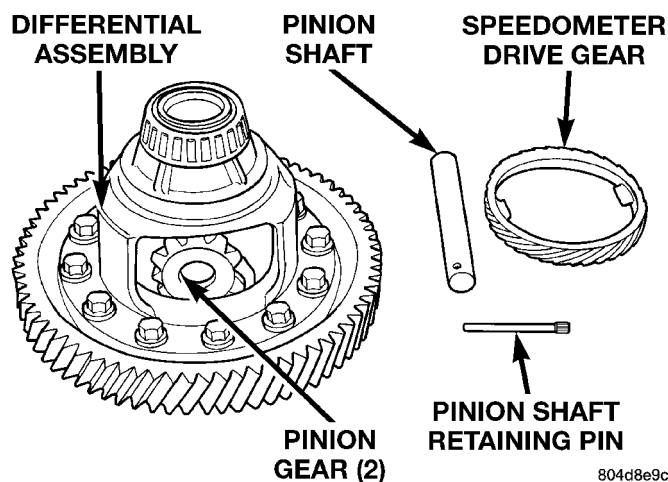

Fig. 111 Remove Pinion Gears, Side Gears, and Thrust Washers by Rotating Side Gears to Opening in Case
- (3) Rotate side gears to opening in differential (Fig. 111).